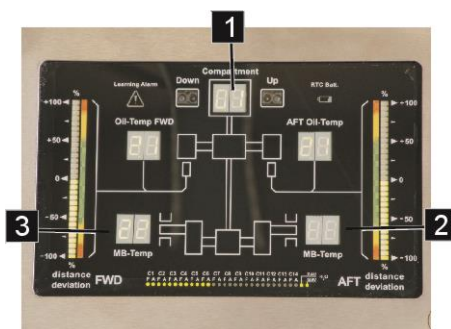

Fig.113: Indication unit
1. Note the number of the cylinder (Fig.113/1) and the position FWD (Fig.113/3) and AFT (Fig.113/2) respectively.